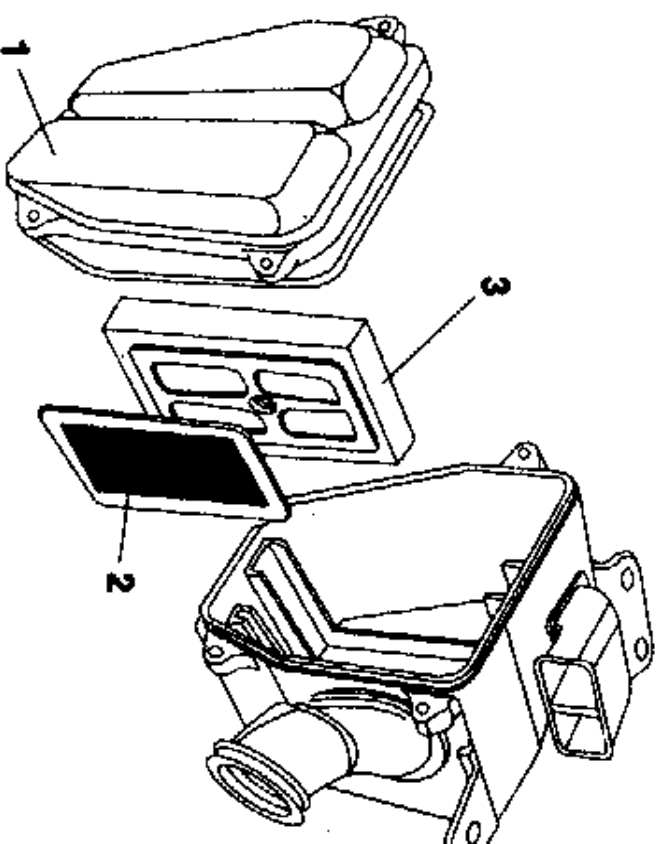

Figure 6
2. Remove air cleaner element 2,3 (See Fig.6)